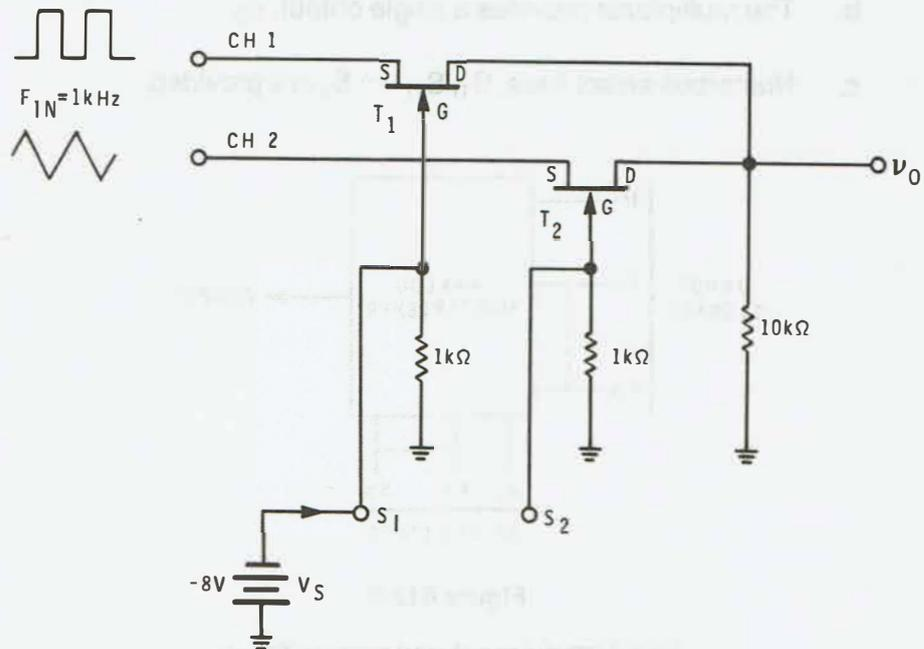

Figure E12-4
A simplified version of a two-channel JFET analog multiplexer is shown in Figure E12-4. Note that the gate voltage, -8V , applied to T_1 , is more negative than $V_{GS(\text{OFF})}$. For this reason, T_1 is cutoff and therefore functions as an open switch. The signal applied to channel one is **not** transmitted to the output. The gate voltage applied to T_2 is essentially 0V , and since the gate is connected to ground via the $1\text{k}\Omega$ resistor, T_2 conducts - approximating a closed switch. In this case, the signal applied to channel 2 is transmitted to the output.
For proper circuit operation, the component values in Figure E12-4 are chosen so that:
17. Construct the circuit shown in Figure E12-4. The pulse and triangular input signals for channel 1 and channel 2 are available on the ET-1000 Trainer.